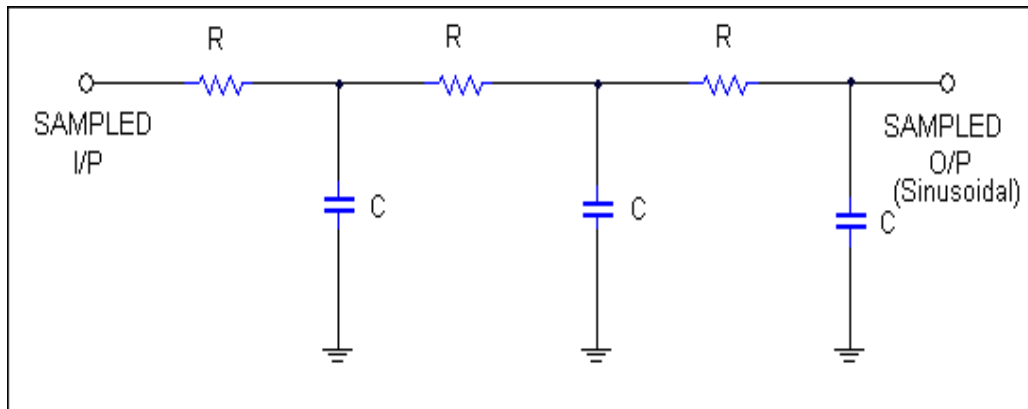

Fig 5.1: Natural Sampling using LF398
1. The circuit is connected as per the circuit diagram shown in the fig 5.1 or 5.3